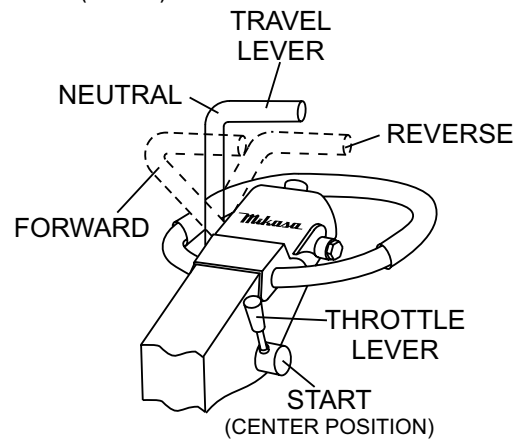

Figure 13. Travel/Throttle Lever (Start Position)
4. Place the throttle lever (Figure 13) in the START position (center). Place the travel lever in the neutral position (center).
- Place the throttle lever (Figure 13) in the **START** position (center).
1. Return the throttle lever to the **START** position (Figure 13). Allow the machine to cool down for 2 to 3 minutes.